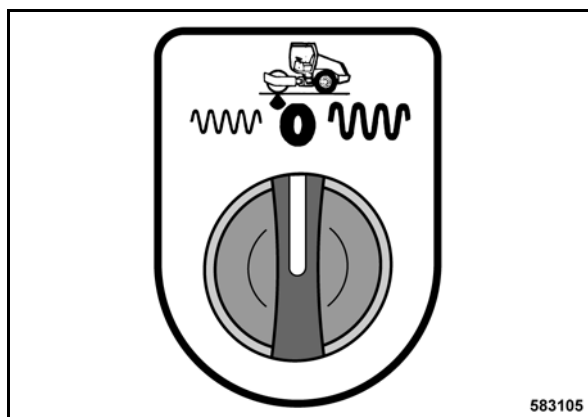

Fig. 63
- Preselect the desired amplitude with the rotary switch for vibration amplitude preselection (Fig. 63).